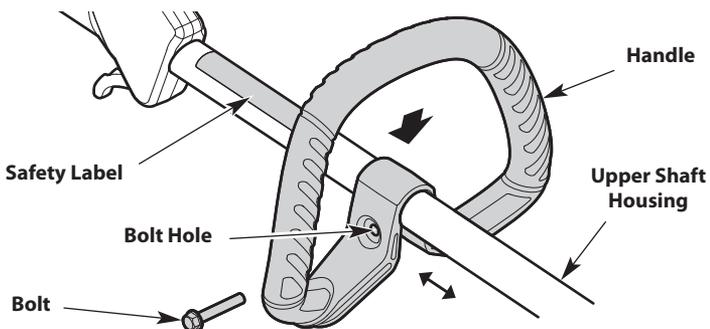

Fig. 8
1. Push the handle down onto the upper shaft housing (Fig. 8). Make sure the bolt hole faces to the right (Fig. 8).
2. Insert the bolt into the bolt hole and push it through (Fig. 8). Tighten the bolt with a flat-head screwdriver, but do not tighten the bolt completely.
3. Hold the unit in the operating position (Fig. 14). Move the handle up or down the upper shaft housing to a comfortable location (Fig. 8). Make sure the handle is positioned beyond the end of the safety label (Fig. 8).
1. Loosen the bolt with a flat-head screwdriver (Fig. 8).
2. Hold the unit in the operating position (Fig. 14). Move the handle up or down the upper shaft housing to a comfortable location (Fig. 8). Make sure the handle is positioned beyond the end of the safety label (Fig. 8).